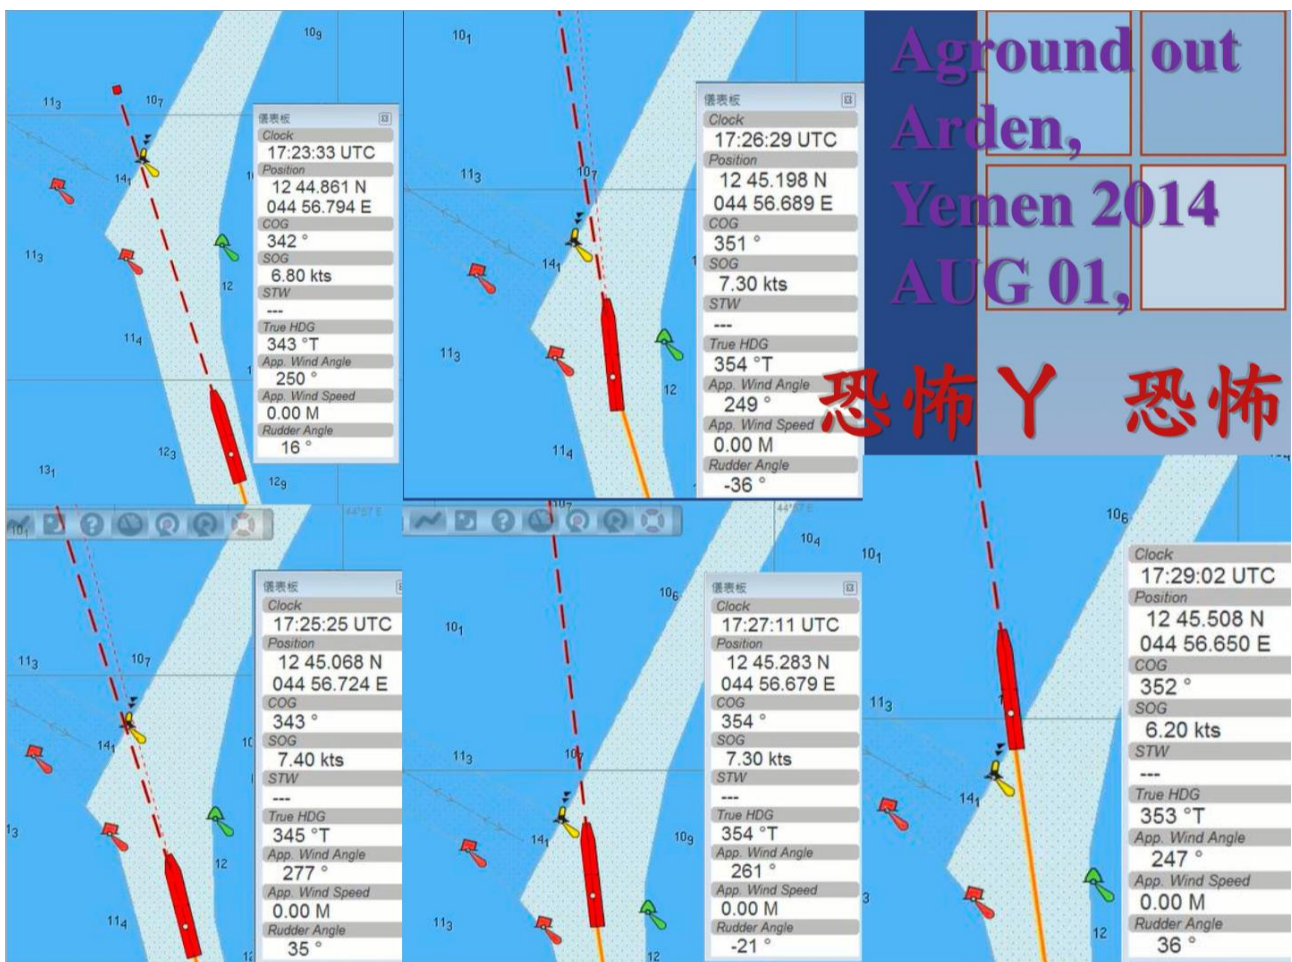

Figure 6-03: Who should we trust at this time?
- Figure 6-03: Who should we trust at this time?
In next example as figure 6-03, Vessel go aground inbound while pilot navigate with pilot boat leading the way. Before the turn of river, pilot give rudder order "Starboard 15" at 17:23:33 hours UTC to start the turn in wheel over position (left upper picture) and "Hard Starboard" at 17:25:25 hours UTC when the turn is approaching (left lower picture). All of a sudden, pilot found pilot boat leading the way ahead did not turning but going straight ahead because pilot boat did not see "south cardinal buoy" there (which is drifting away to northeast position, not shown at her charted position as our figure 6-03). Ship's heading is still 342° degrees(T) at 17:25:25 hours, not turning yet after 2 minutes wheel over. Pilot still remember his starboard side turn and order rudder angle to "Hard Starboard" to increase the turn. But pilot boat did not turn to starboard side who should I trust at this time? The straight going pilot boat did not have any confirmation with Mr. pilot or himself who had given two correct rudder orders and familiar with the turn here is to be trusted? The instinct of pilot is to trust others. Maybe pilot had these unconscious mistakes or carried away sometimes before and saved by pilot boat's help? Maybe it is still OK pilot use counter rudder "Hard Port" to stop the turn at 17:26:29 hours UTC (middle upper picture). The starboard turn is checked at 354° degrees(T) at 17:27:11 hours UTC (middle lower picture). Vessel go around after 2 minutes 17:29:02 Hours (right lower picture). At the bridge ship's Captain and OOW did not notice when pilot hesitated at his rudder order. They did not notice either when counter rudder is ordered while the turn is not finished yet. It is quite normal to have "Hard Port" rudder order to stop starboard side turn initiated by "Hard Starboard" rudder. The "Hard Port" is used when the turn is about to finish at second stage of turning. No one challenge pilot's timing of Rudder order or suspect his intention to stop the turn. This confused situation can be solved by one look at ECDIS or looks outside the bridge for other buoys position or OOW is smart enough who had detected one buoy had missing well before ownship approaching this turn. Nor OOW nor master nor pilot nor pilot boat are in the mood of navigation in this critical minute. It is a good day to sail, for a sailor.